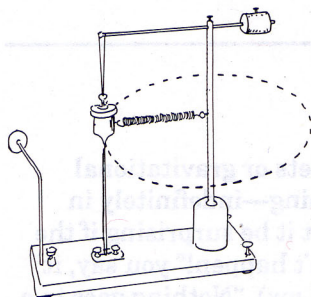

Figure 17.1
Step 2. Attach the spring between the shaft and the bob. Rotate the shaft so the bob always passes directly over the pointer as shown in Figure 17.1.